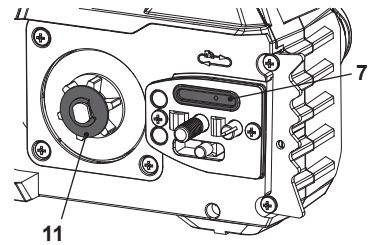

Fig. 42
1. Disassemble the guide bar (13) and saw chain (12) in reversed order from assembly.
2. Check the oiling port (7) for clogging and clean if necessary to ensure proper lubrication of the guide bar and saw chain during operation. Use a soft wire small enough to insert into the oil discharge hole (Fig. 42).